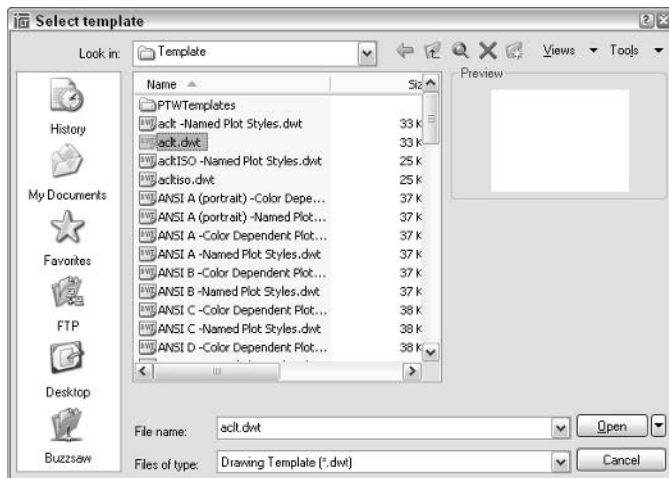

Figure 4-2:
4. **Select the acld.dwt template, as shown in Figure 4-2, and click the Open button.**